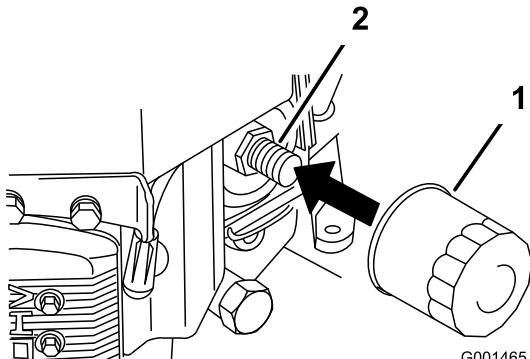

Figure 23
- Remove the old filter (Figure 23).
- Apply a thin coat of new oil to the rubber gasket on the replacement filter (Figure 23).
- Install the replacement oil filter to the filter adapter, turn the oil filter clockwise until the rubber gasket contacts the filter adapter, then tighten the filter an additional 3/4 turn (Figure 23).